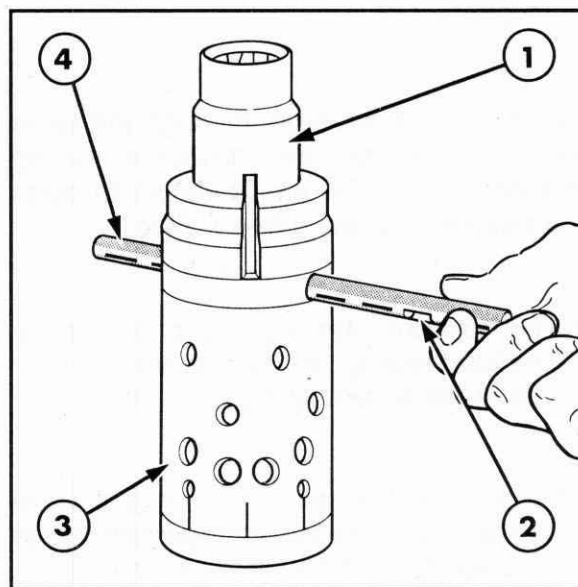

Figure 7-32
11. Push the drive pin completely from the valve assembly with a suitable driver, Figure 7-32.